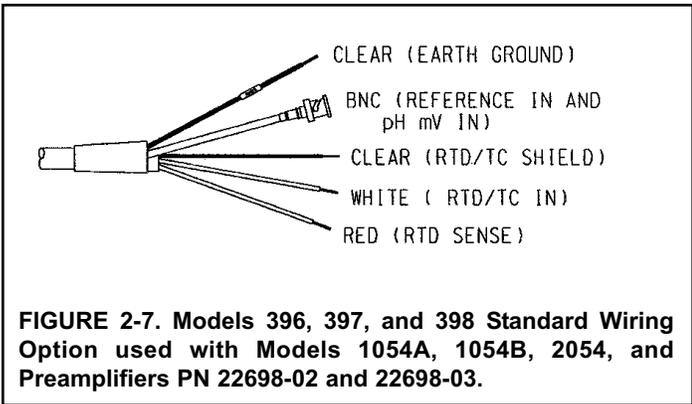

FIGURE 2-7. Models 396, 397, and 398 Standard Wiring Option used with Models 1054A, 1054B, 2054, and Preamplifiers PN 22698-02 and 22698-03.
The Models 396, 396VP, 397, 398, and 398VP are for use with a remote preamplifier. Each sensor comes with either a special 15 ft low noise coax cable or a Variopool (VP) connector, which is used with a mating Variopool cable. The cable should be handled carefully, and kept dry and free of corrosive chemicals at all times. Extreme care should be used to prevent the cable from being twisted, damaged or scraped by rough, sharp edges or surfaces. Please refer to Figures 2-7 thru 2-18 for wiring Models 396, 397, and 398.